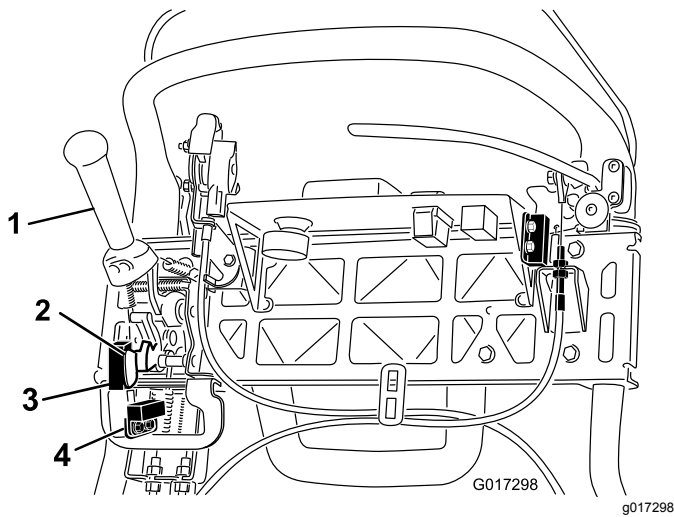

Figure 44
- Loosen the interlock switch mounting fasteners (Figure 44).
- Place a 1.6 mm (0.062 inch) thick shim between the traction lever and the interlock switch (Figure 44).
- Loosen the mow sensor mounting fasteners (Figure 44).
- Place a 1.6 mm (0.062 inch) thick shim between the mow sensor flag and the mow sensor (Figure 44).